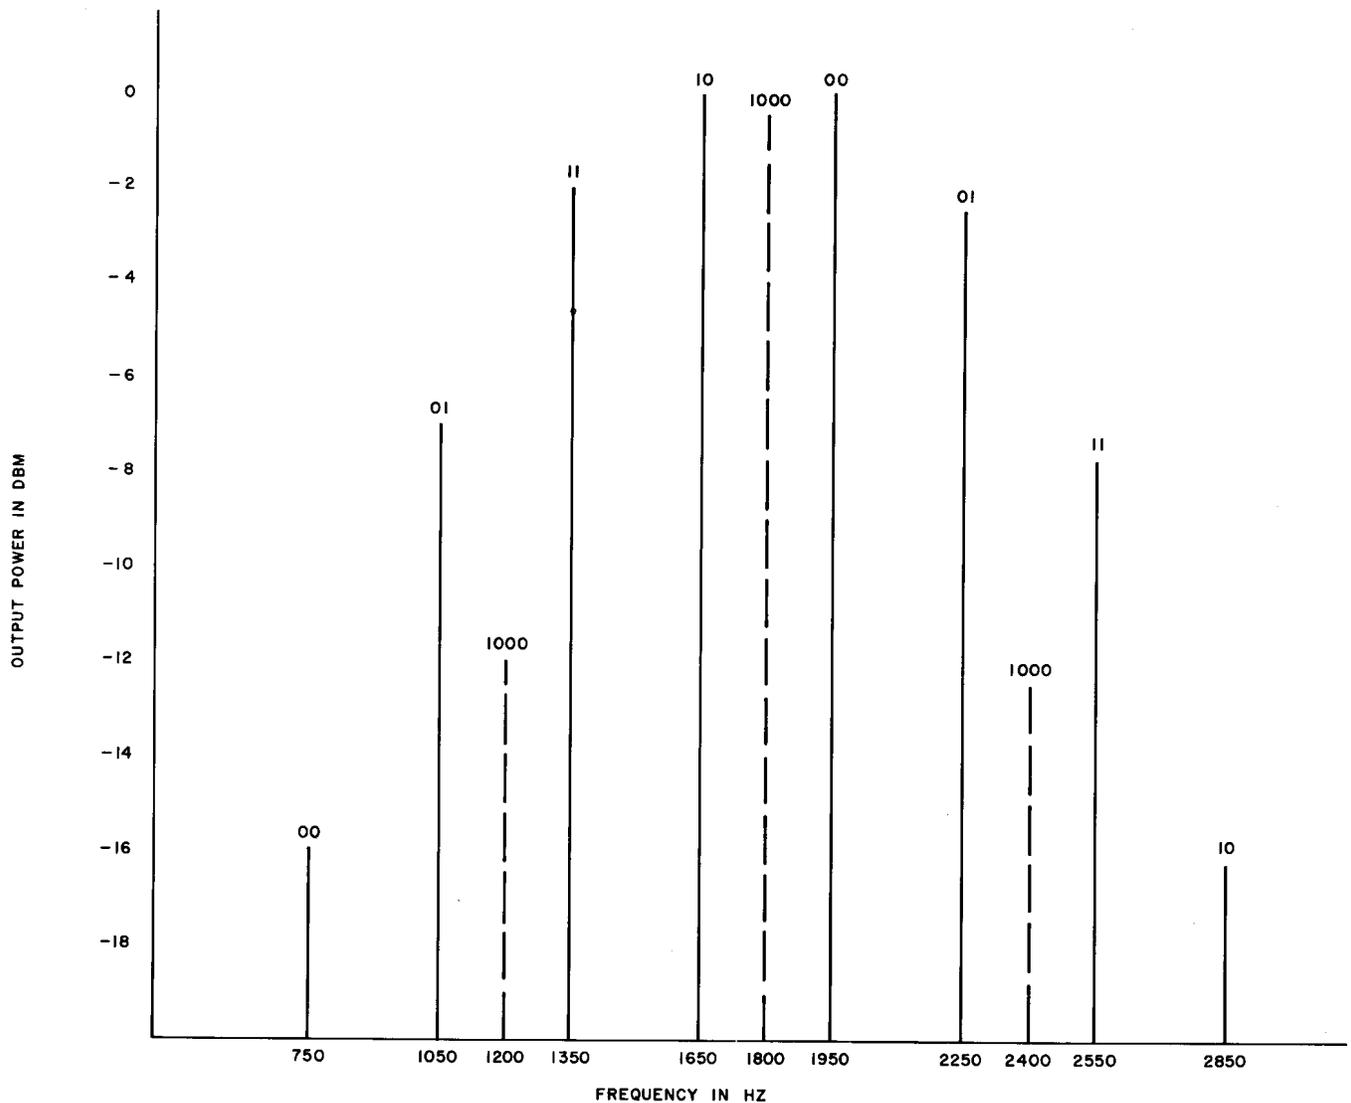

Fig. 3 — Output Spectrum for Repeated Dibit Codes at 2400 bps
4.12 The A bit is defined as the bit sampled during the positive half-cycle of the 1200-Hz dibit clock and the B bit as that sampled during the negative half-cycle. The phase shift referred to in the table is the head-to-head or epoch angle of the carrier of succeeding pulses. Figure 3 shows the line spectrum for the transmission of repeated dibits.